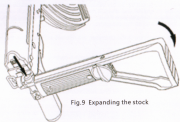

Fig.9 Expanding the stock
3.6.2 When expanding the stock, press down the clamp of the stock first, then turn the stock backward to its position (See fig.9)